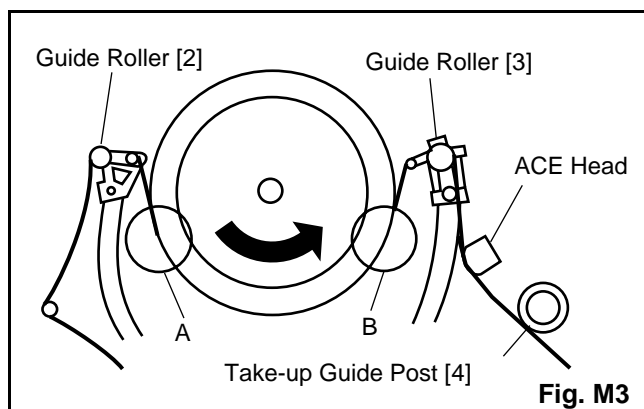
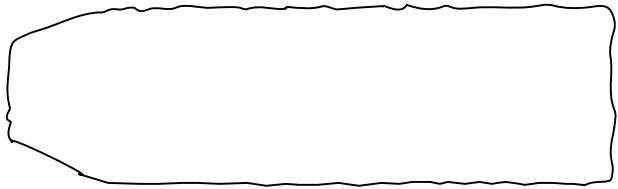
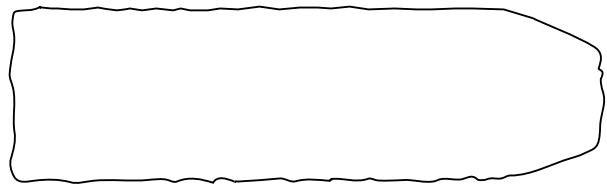
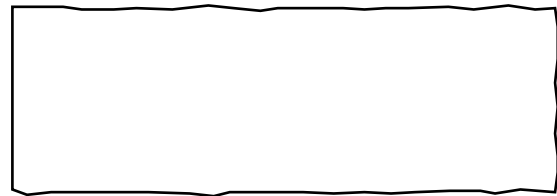

Fig. M3
Fig. M7
Fig. M8
Fig. M9
1. Playback a blank cassette tape and check to see that the tape runs without creasing at Guide Rollers [2] and [3], and at points A and B on the lead surface. (Refer to Fig. M3 and M4.)
2. If creasing is apparent, align the height of the guide rollers by turning the top of Guide Rollers [2] and [3] with a Guide Roller Adj. Screwdriver. (Refer to Fig. M3 and M5.)
3. Check to see that the tape runs without creasing at Take-up Guide Post [4] or without snaking between Guide Roller [3] and AC Head. (Fig. M3 and M5)
2. Playback the Gray Scale on the Alignment Tape (FL8NW). Set the Tracking Control Circuit to the center position by pressing CH UP button and then "PLAY" button on the unit. Adjust the height of Guide Rollers [2] and [3] (Fig. M3, Page 2-3-3) watching the oscilloscope display so that the envelope becomes as flat as possible. To do this adjustment, turn the top of the Guide Roller with the Guide Roller Adj. Screwdriver.
3. If the envelope is as shown in Fig. M7, adjust the height of Guide Roller [2] (Refer to Fig. M3) so that the waveform looks like the one shown in Fig. M9.
4. If the envelope is as shown in Fig. M8, adjust the height of Guide Roller [3] (Refer to Fig. M3) so that the waveform looks like the one shown in Fig. M9.
5. When Guide Rollers [2] and [3] (Refer to Fig. M3) are aligned properly, there is no envelope drop either at the beginning or end of track as shown in Fig. M9.
Note: Upon completion of the adjustment of Guide Rollers [2] and [3] (Refer to Fig. M3), check the X Value by pushing the CH UP or DOWN buttons alternately, to check the symmetry of the envelope. Check the number of pushes to ensure center position. The number of pushes CH UP button to achieve 1/2 level of envelope should match the number of pushes CH DOWN button from center. If required, redo the "X Value Alignment."